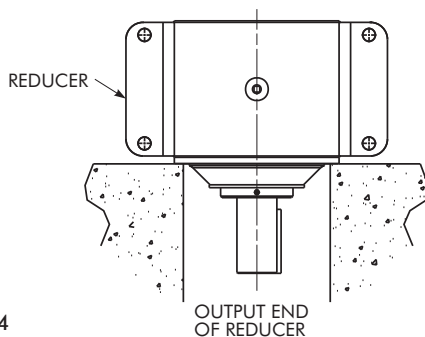

FIGURE 4
- e. Orient output sub-assembly/maincase in vertical position so that gearing and input sub-assembly can be installed; reference Figure 4.